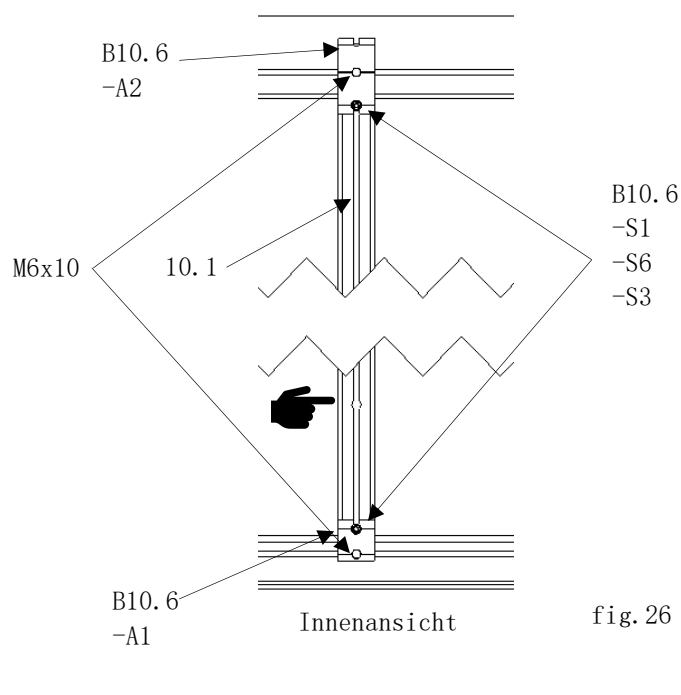
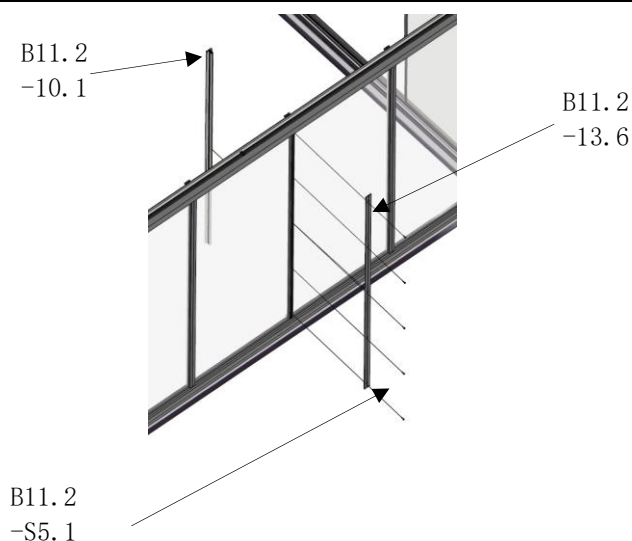

fig. 26
fig. 27
- insert the hexagon head screws M6x12 (item B10.6/ S1) at the bottom into the hole of the first side glazing-bar (item 10.1) and press one upwards and one downwards into the groove of the connector. (*fig. 26*)
- the 1st side glazing-bar (item 10.1) is mounted to the connectors (item 10.6/A1 and A2) of the floor profile and the AG-eaves-profile using washers (item 10.6 S6) and hexagon nuts M6 (item 10.6/S4). (*fig. 26*)
- the repair glazing-bar (item B11.2/10.1) is fitted from the inside and screwed as shown in *fig. 26*! (*fig. 27*)
- Attach the flashing (item B11.2/13.6) to the repair glazing-bar (item B11.2/13.6) from the outside and screw it with 5 x countersunk screws 4.2x22 (item B11.2/S5.1). (*fig. 27*)